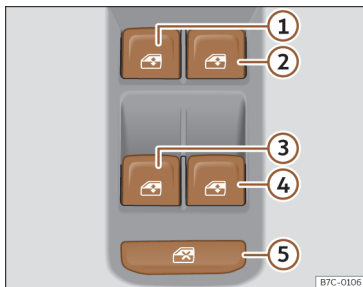

Fig. 83 Detail of the driver's door: window controls.
The safety control  **Fig. 83** ⑤ on the driver door can be used to disable the electric window buttons on the rear doors.